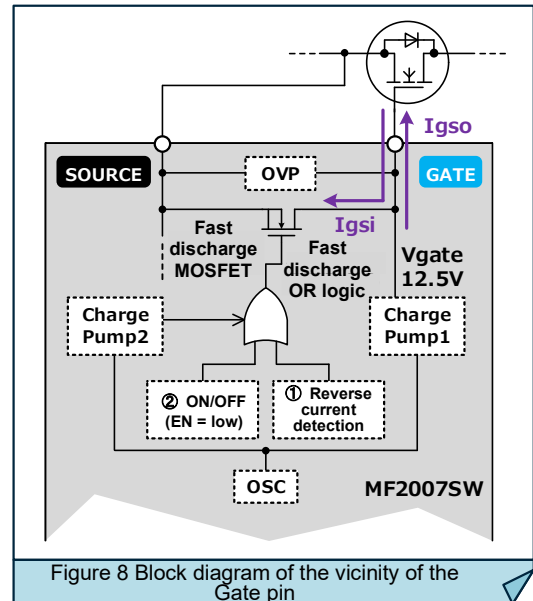

Figure 8 Block diagram of the vicinity of the Gate pin
The MF2007SW incorporates the Gate fast discharge function. This function is activated upon ① reverse current detection or ② switching on/off when EN = low. If ① or ② is detected at the OR logic input for fast discharge, the fast discharge MOSFET between Gate and Source in the IC is turned on and rapidly discharges the Gate voltage (see Figure 8). The OR logic for fast discharge is driven by the output of Charge Pump 2 in the IC. Charge Pump 2 begins to operate simultaneously with Charge Pump 1 when the OSC in the IC begins to oscillate. The Gate fast discharge capacities by ① and ② as shown in Figure 8 are as follows:
- ① Gate fast discharge by reverse current detection * See Section 4.5 (next page) for detailed information on preventing reverse currents.
- ② Gate fast discharge by EN = low *See “Solid state relay type (start and stop by EN)” in Section 4.2 on previous page.